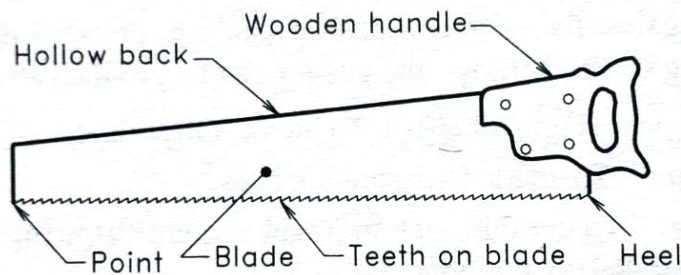

FIGURE 6.4
1. *Cross cut saw (Hand saw)*: It is used to cut thick wooden pieces across the grains (Figure 6.4). Cross cut saw has about 3 to 4 teeth per cm with a saw length of about 650 mm.